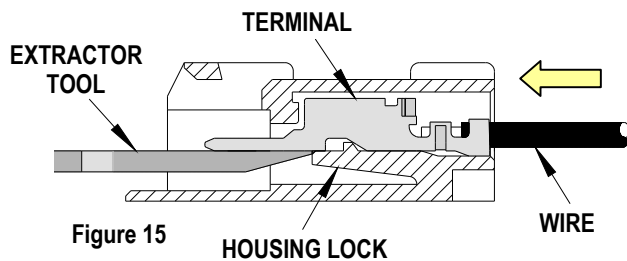

Figure 15
1. Push the terminal forward in the arrow direction before using the Extractor Tool. Insert the Extractor Tool into the slot on the side of the connector housing as shown in Figure 15.